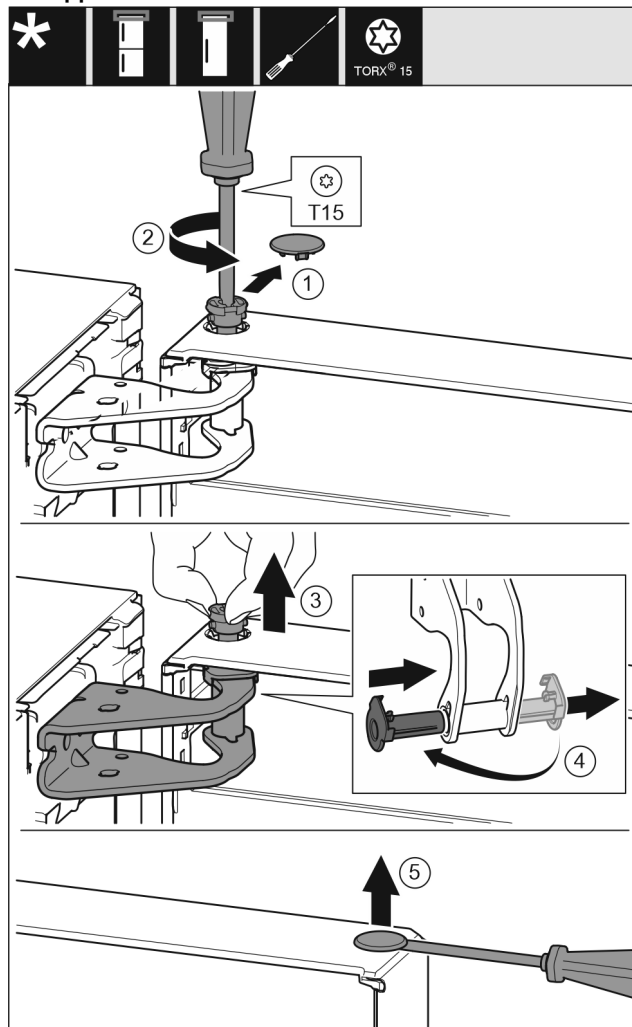

Fig. 5
- ▶ Carefully remove the protective cover. Fig. 5 (1)
- ▶ Undo the bolt a little with a T15 screwdriver. Fig. 5 (2)
- ▶ Hold the door and remove the bolts with your fingers. Fig. 5 (3)
- ▶ Pull the bearing bush out of the guide. Insert from the other side and latch into place. Fig. 5 (4)
- ▶ Carefully lift the plugs out of the door bearing bush with a slotted screwdriver and pull them out. Fig. 5 (5)